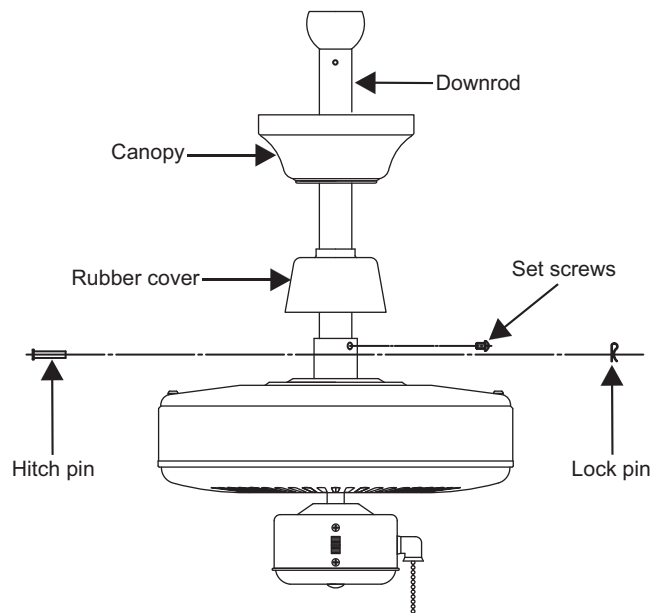

Figure 6
Step 4. Route wires exiting from the top of the fan motor through the rubber cover, canopy and then through the ball/downrod. (Fig. 6)
Step 5. Align the holes at the bottom of the downrod with the holes in the collar on top of the motor housing (Fig.6). Carefully insert the hitch pin through the holes in the collar and downrod. Be careful not to jam the pin against the wiring inside the downrod. Insert the locking pin through the hole near the end of the hitch pin until it snaps into its locked position, as noted in the circle inset of Fig. 6.
Step 6. Tighten two set screws on top of the fan motor firmly. (Fig. 6)